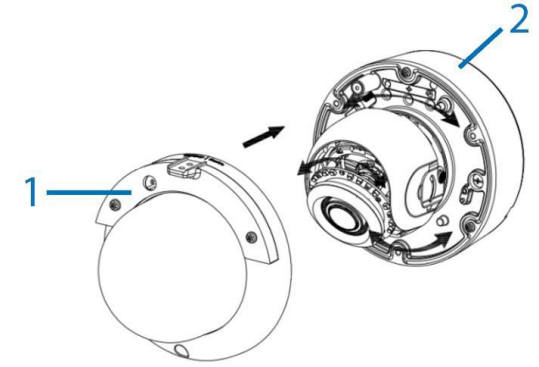

Figure 12
4. Hold the bracket and camera dome cover (1) (Figure 12) up to the camera base (2) (Figure 12) and align the two M4 screws on the bracket with the two holes on the camera base.